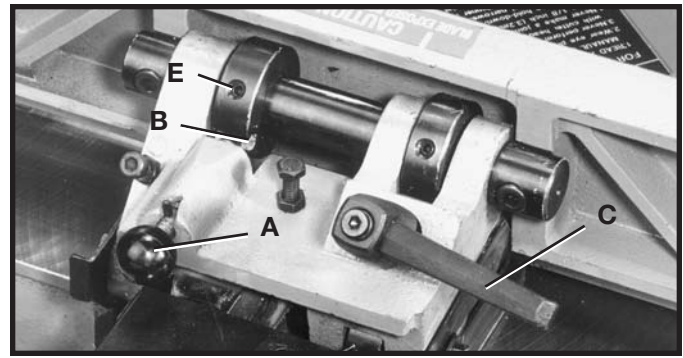

Fig. 50
1. Position the fence at 90 degrees to the table. Make certain the end of plunger (A) Fig. 50, is engaged in notch (B) in index collar as shown, and tighten lockhandle (C).
3. If an adjustment is necessary, loosen set screw (E) Fig. 50, in the index collar and loosen fence locking handle (C).
4. Using the 90 degree edge of the square, tilt the fence until you are certain the fence is 90 degrees to the table and tighten lockhandle (C) Fig. 50, and set screw (E).